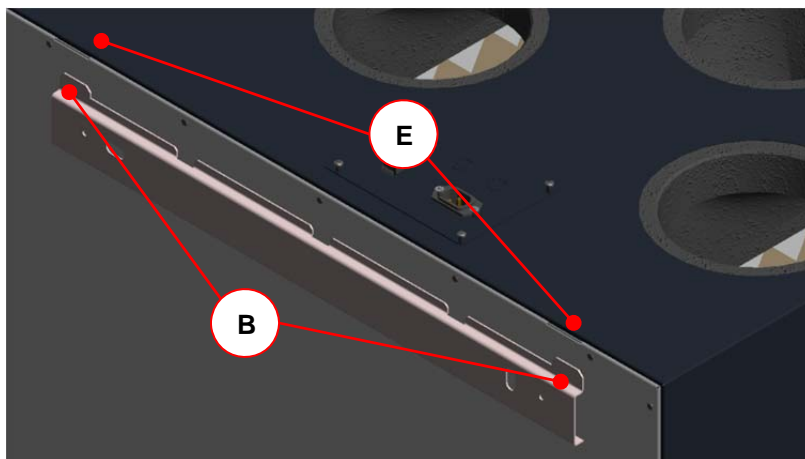

Fig 21: Hanging into the mounting sheet
6. Put the NOVUS on the mounting frame by hooking the tongues in the bottom slot openings of the rear panel. See Fig 21.